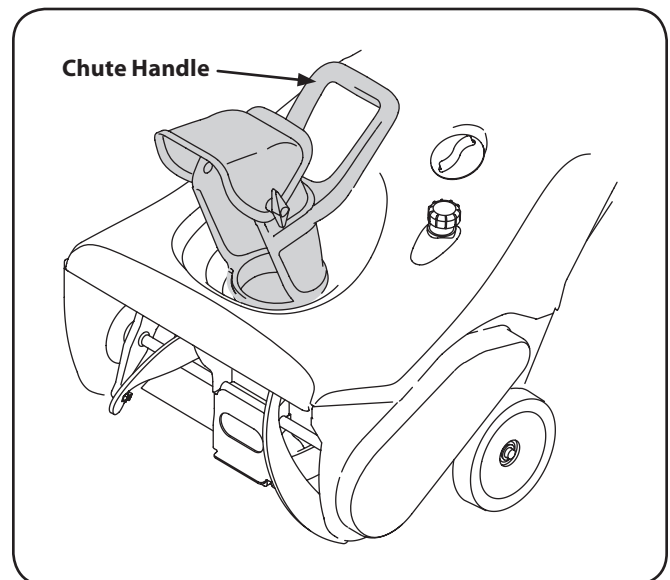

Figure 3-3
3. Secure with the hardware just removed. Refer to Figure 3-3.